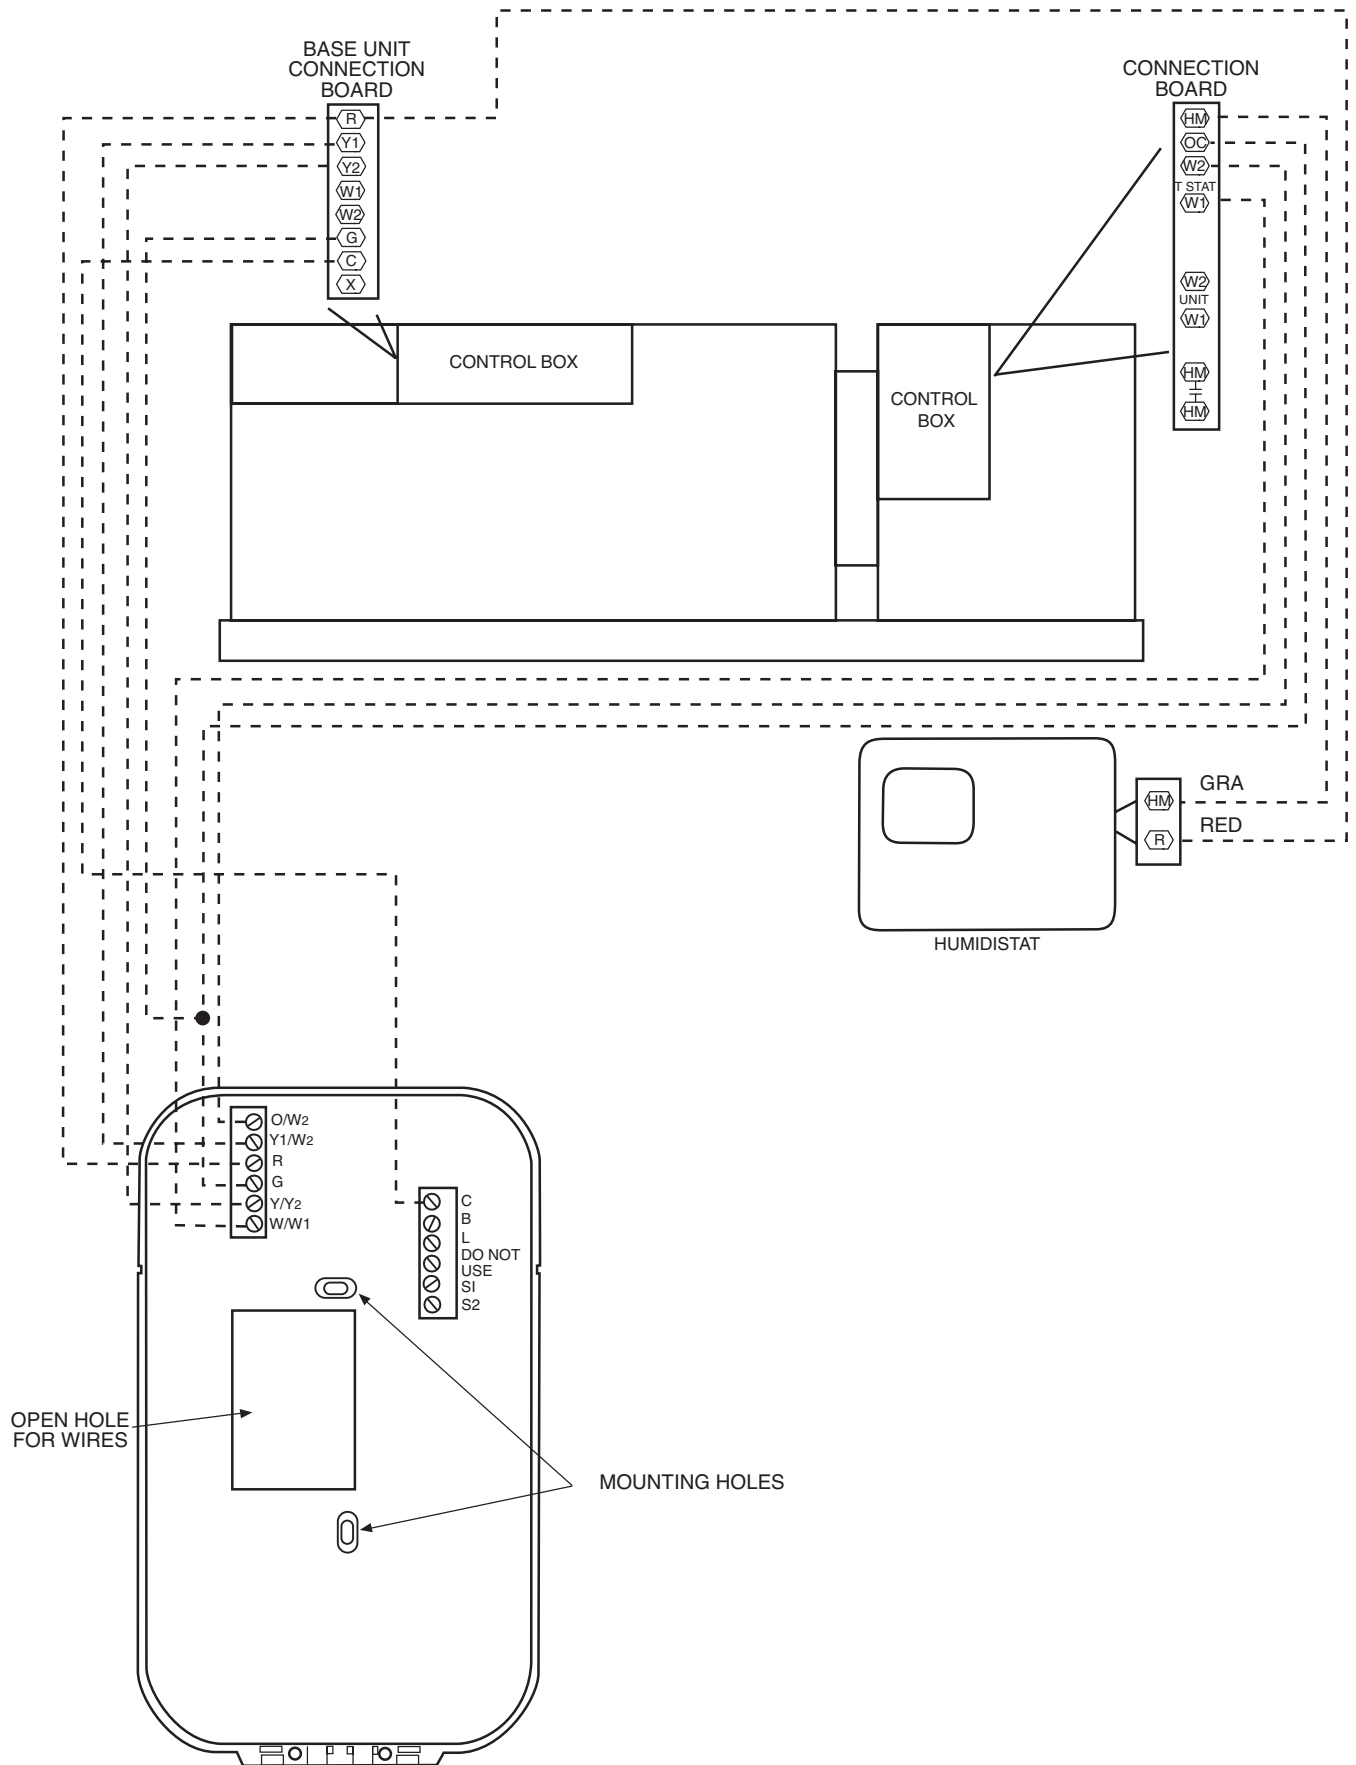

Fig. 25 — Control Wiring with Digital Thermostat, Humidistat and Electro-Mechanical Controls
- digital thermostat, humidistat and electro-mechanical controls (Fig. 25)